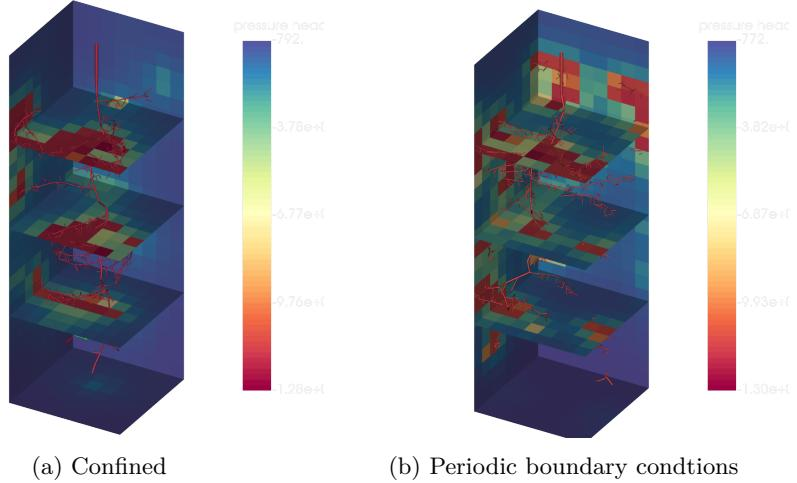

Figure 19: Water depletion due to root uptake after one week.
- 99-111 L99 creates Figure 19 and, L102-111 plots uptake and cumulative uptake over time, see Figure 20.